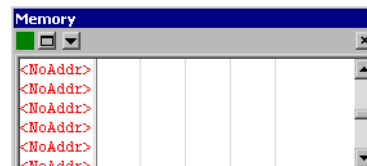

Figure 7-5 Memory pane
6. If no Memory pane is visible, select **View** → **Memory** to display the Memory pane, shown in Figure 7-5 on page 7-12.